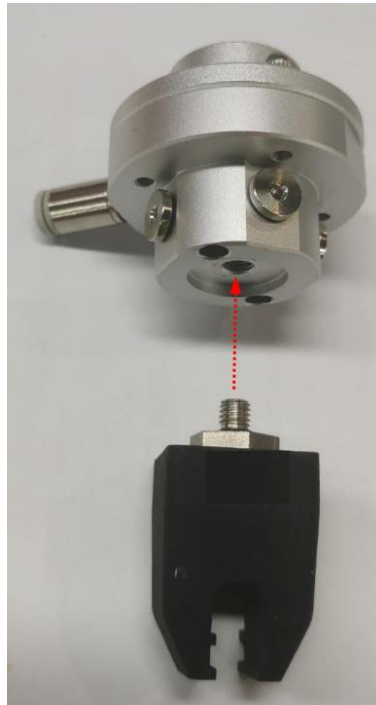

Figure 2.13 Install soft beak 2 to connection block
Step 3 Install the soft beak 2 to connection block, as shown in Figure 2.13